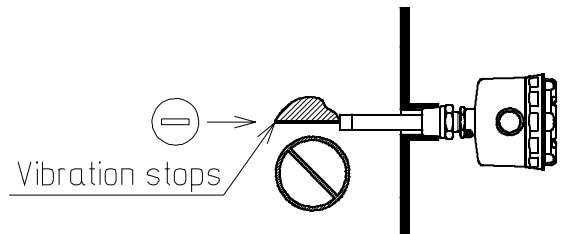

Fig. 7
- (2) The cable inlet must be pointing down to the ground. If installed on the sideways, the measuring material will accumulate on the vibration reed and may cause malfunction. Besides, installing upward will intrude rain or splashing water inside the sensor. See Fig. 7 and 8.